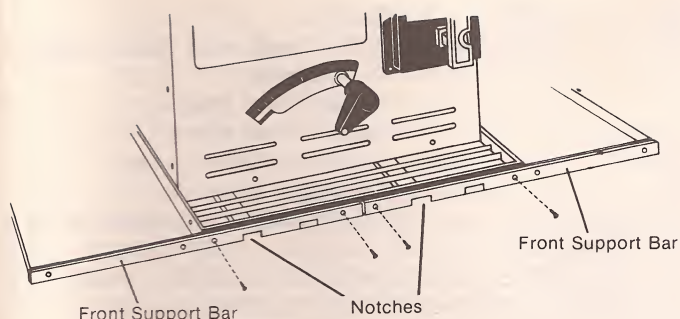

Figure 5
- D. Using two self-tapping screws, attach each of the Front Support Bars to the front half of the **table top only** as shown in **figure 5**. Make sure that: a. the two notches in the bar are facing down and; b. that one of the notches aligns with the square channel in the table top.